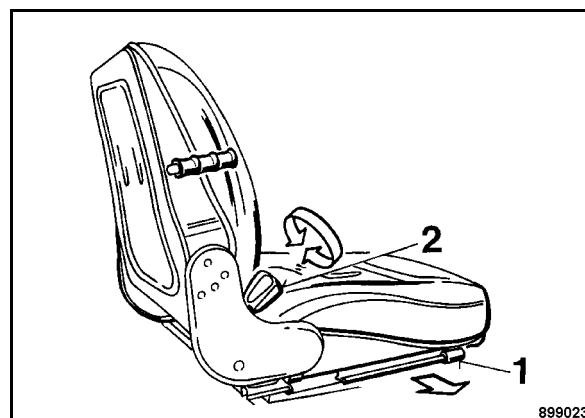

Fig. 49
- To adjust the seat in longitudinal direction push the lever 1 (Fig. 49) outwards.
- Adjust the inclination of the backrest by turning the rotary knob (2).